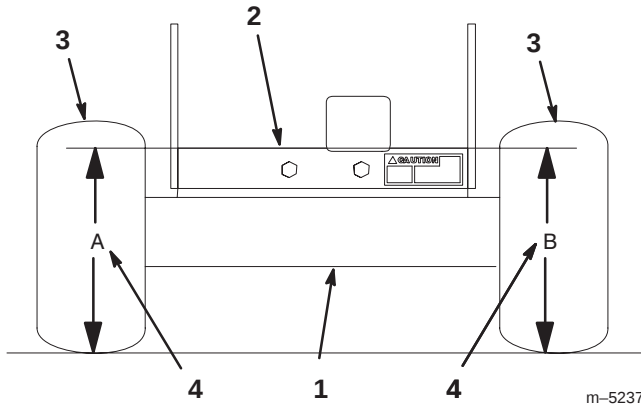

Figure 53
3. Measure engine deck height at location "A" (Fig. 53).
4. Measure engine deck height at location "B" (Fig. 53).